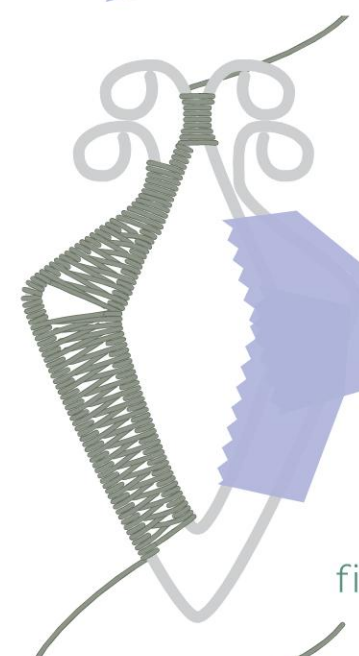

figure 6
- 18 Weave to the Inner Frame's second bend/diamond tip (Figure 6).